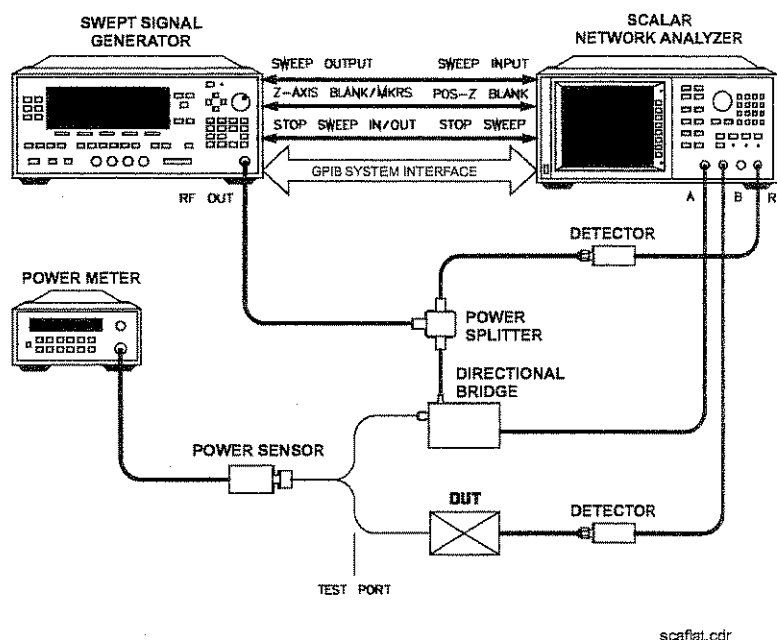

Figure 1-21. Scalar System Configuration
The following example demonstrates how to set up a scalar analysis measurement (using an HP/Agilent 8757 Scalar Network Analyzer) of a 2 to 20 GHz test device such as, an amplifier. User flatness correction is used to compensate for power variations at the test port of a directional bridge. Follow the instructions to set up the swept signal generator, then configure the system as shown in Figure 1-21.
1. The equipment setup shown in Figure 1-21 assumes that you have followed the steps necessary to correctly level the configuration. If you have questions about external leveling, refer to "Externally Leveling the Swept Signal Generator".